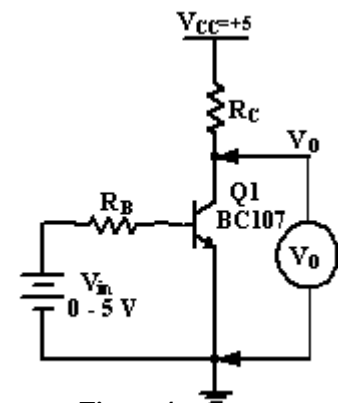

Figure 4
- 1- Construct the circuit shown in Figure 4. By using **BC107 BJT** and use  $V_{CC} = +5V$ ,  $R_C = 1k\Omega$  and  $R_B = 4.7k\Omega$ .
- 1- For the same circuit shown in Figure 4, set  $V_{in} = 0.0V$ , read the value of  $V_O$  and fill it in Table 5 in the sheet answer.